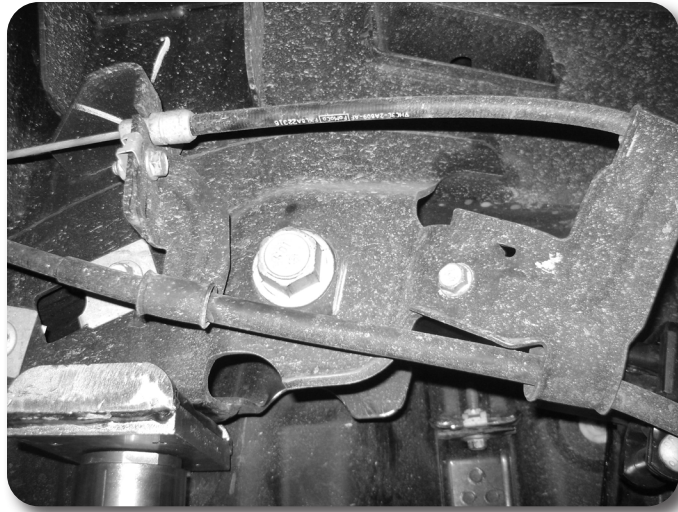

Figure 23
22. Remove cables from the rear bracket that attaches just behind the front leaf spring mount, remove bracket, it will not be reinstalled. Figure 23